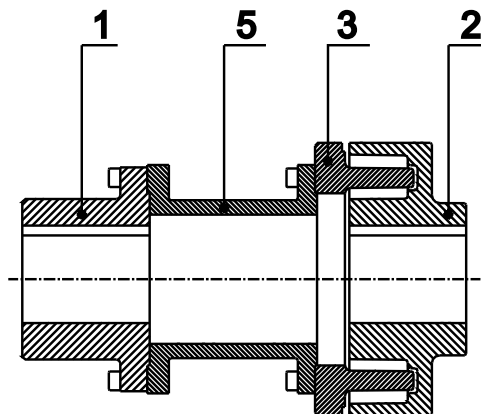

Figure 11: TEX-O-flex DS
Driving claws (3) can be unbolted, rotated and pressed into the flexible elements allowing the spacer (5) sufficient axial clearance for removal (See Figure 11: TEX-O-flex DS).